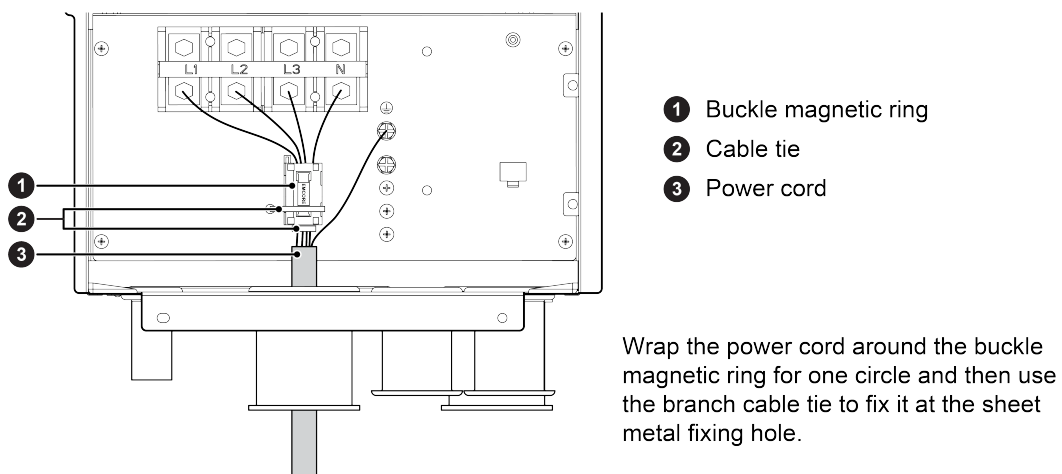

Fig.3.8.3
- (1) Refer to the following parts for engineering wiring. Connect the power cord and communication cable to the terminal board and grounding screws respectively according to the wiring diagram. Press and fix the sheath part of the power cord and communication cable with the corresponding fixing clamp.
- (2) Pay attention that the engineering wiring and the magnetic ring cannot touch the pipe or the device.
- (3) This drawing is only for reference of the wiring of power cord and communication cable. If it is different from the unit, please refer to the actual unit.
- (4) The engineering wiring shall be subject to the wiring diagram on the unit.
- (5) For Model 224, Model 280 and Model 335 unit. Strip 150mm of the black insulation layer from the power cord terminal, wrap L1, L2, L3 and N around the buckle magnetic ring, tie the buckle magnetic ring and power cord tightly with high-temperature cable tie to avoid sliding, and then fix them at the sheet metal fixing hole under the terminal board with branch cable tie. See the Fig.3.8.3 for the illustration.